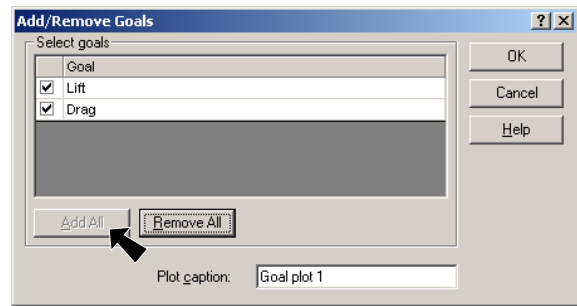
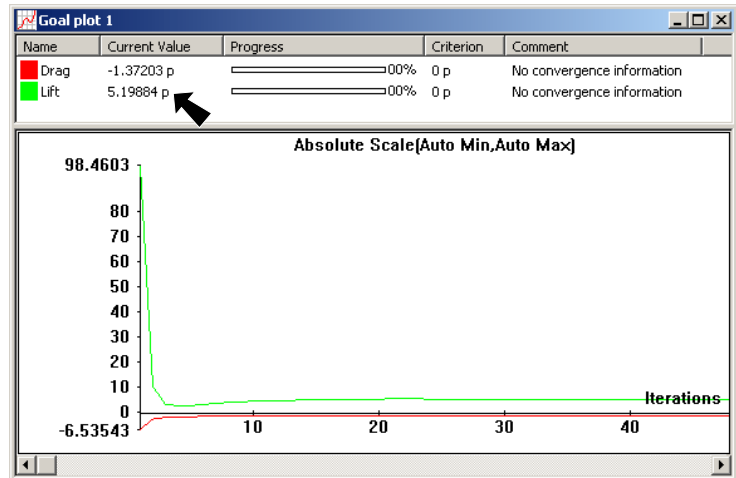

Fig. 18
Fig. 19
Step 2. Click Insert Menu > Goals Plot in the Solver, **Fig. 18**.
Step 3. Click **Add All** and OK in Add/Remove Goals, **Fig. 18**. Our Lift was **5.19**, **Fig. 19**.